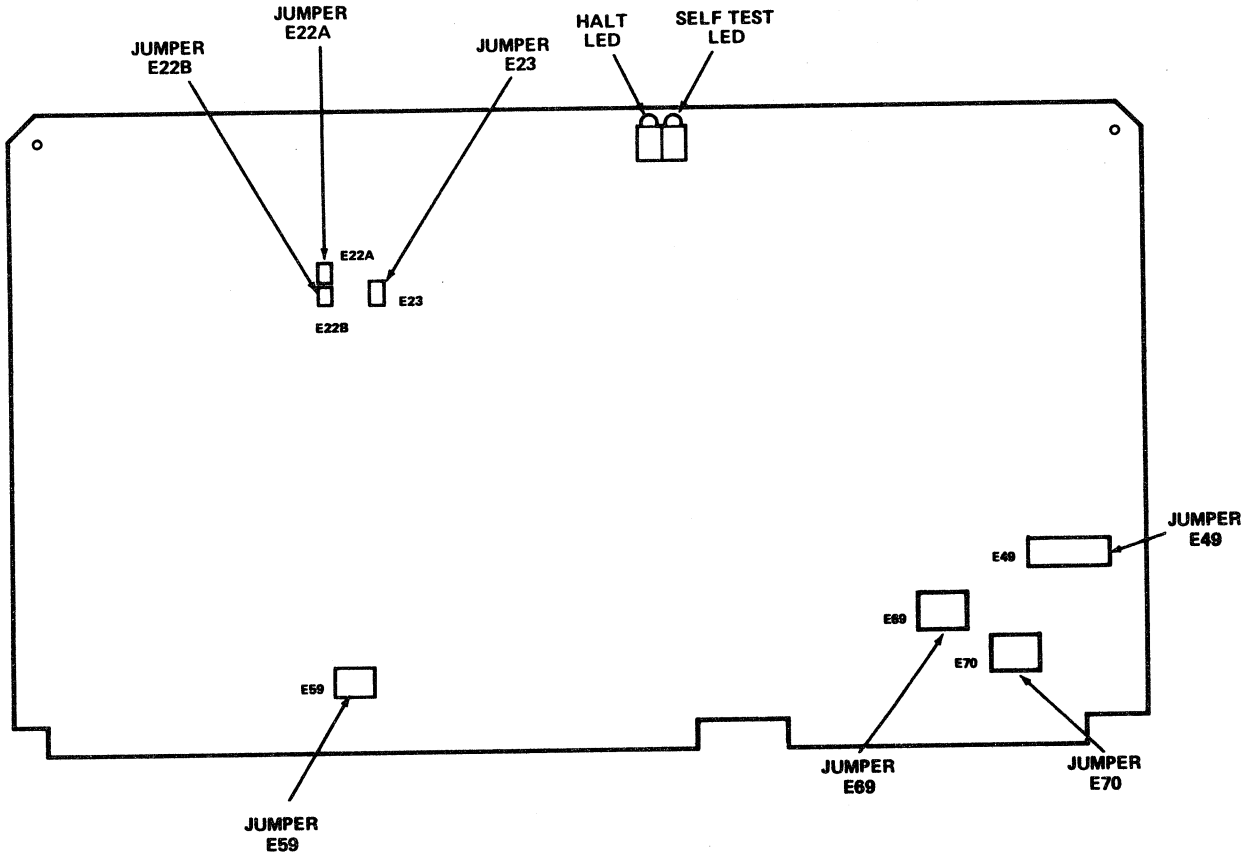

Figure 5-9 SIO Board
Figure 5-9 illustrates the positions of the two diagnostic LEDs and all configuration areas on the SIO board. Most SIO board configuration options (e.g., baud rate and protocol selection) are software-selectable and are stored on the diskette. The following paragraphs describe the shorting plug settings controlling hardware elements that cannot be selected by the software.
- **Areas E22A and E22B** are used to assign the SIO board number (SIO 1 through SIO 4). Board numbers must be assigned in sequence, in ascending numeric order. Table 5-8 lists the numbers assigned by each combination of shorting plug positions. The locations of these areas are indicated in Figure 5-9. Board number assignment is required only for boards ordered separately; boards shipped with a Series/1 server have preassigned board numbers.
The locations of these areas are indicated in Figure 5-9. Multibus interrupt level assignment is required only for boards ordered separately; boards shipped with a Series/1 server have preassigned interrupt levels.